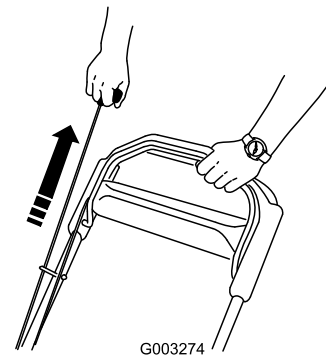

Figure 14
2. Pull the recoil-start handle (Figure 14).